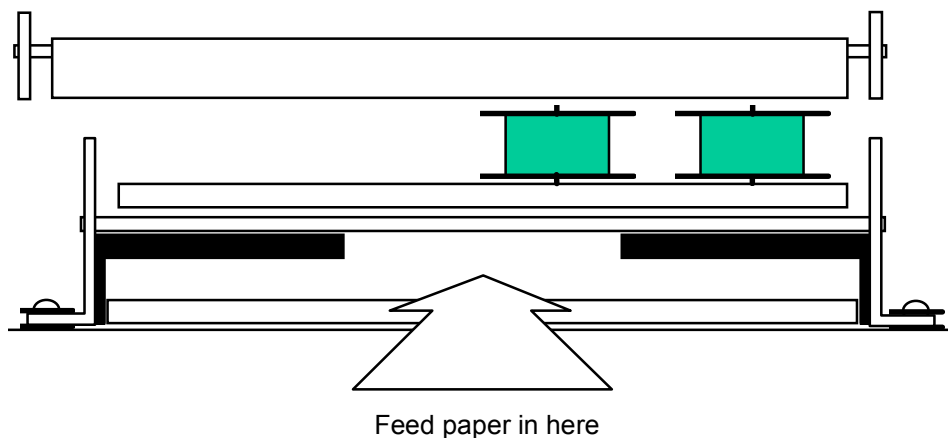

Figure 5-3: Feeding Paper into Printer
4. Manually feed the end of the paper into the bottom of the printer as shown in Figure 5-3.